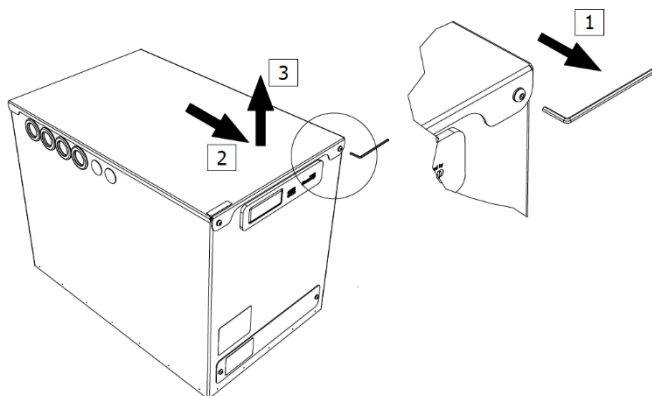

Figure 7: Access to Heat Battery connections
- Remove lid. The lid is secured by 2 x M5 button head cap screws at the front and two locating pins at the back (Figure 7):